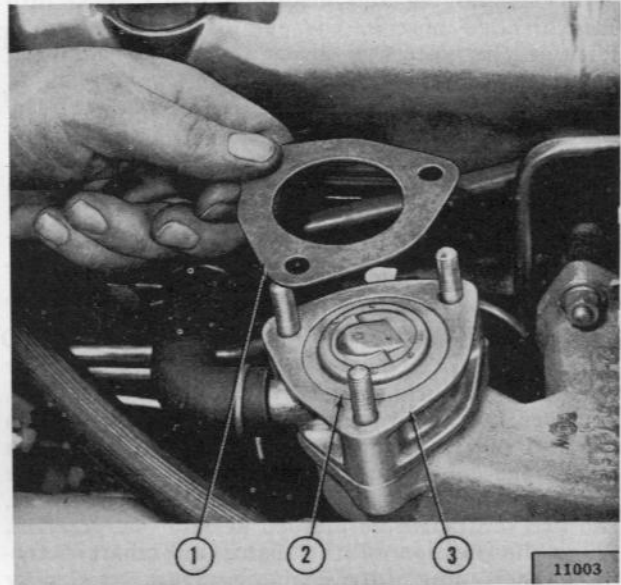

FIG. 132—THERMOSTAT INSTALLATION
Position the thermostat housing gasket (19, Fig. 73) and thermostat housing (21) on the studs at the front of the intake manifold. Install the thermostat (20) and gasket as shown in Fig. 132. The thermostat must be installed before the gasket. Position the water outlet elbow (18) on the thermostat housing and secure with three nuts (15), lock washers (16), and flat washers (17). Connect the hose (36) from the outlet port on the housing to the